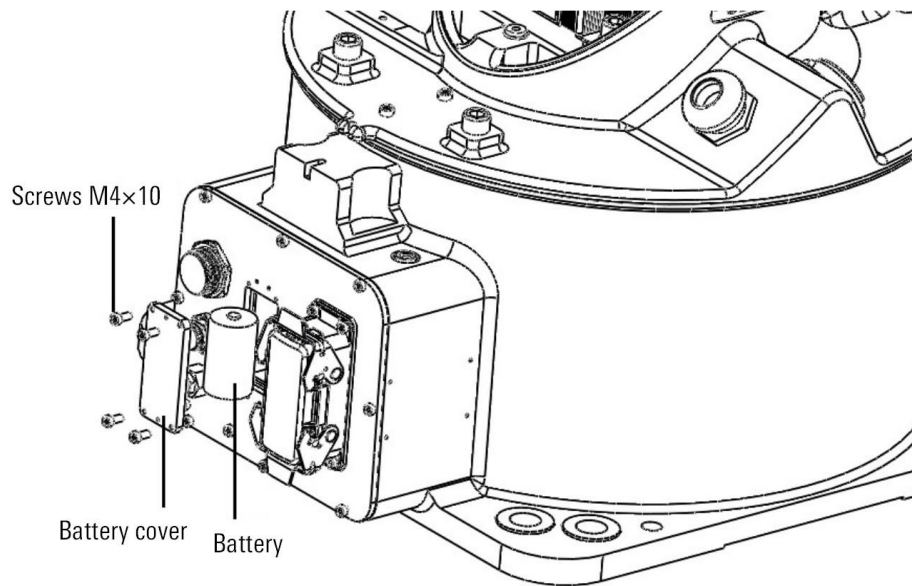

Figure 12-3 Replace battery
- Step3. Remove the battery cover as shown in Figure 12-3 above.